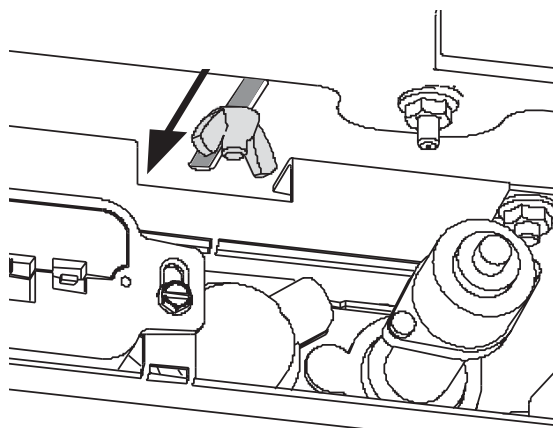

Figure 7.1.
3. Open the Controls Panel under the firebox. **Loosen the Air Shutter wing nut** located below the firebox floor and push the stem back far as it will travel. See fig. 7.1.